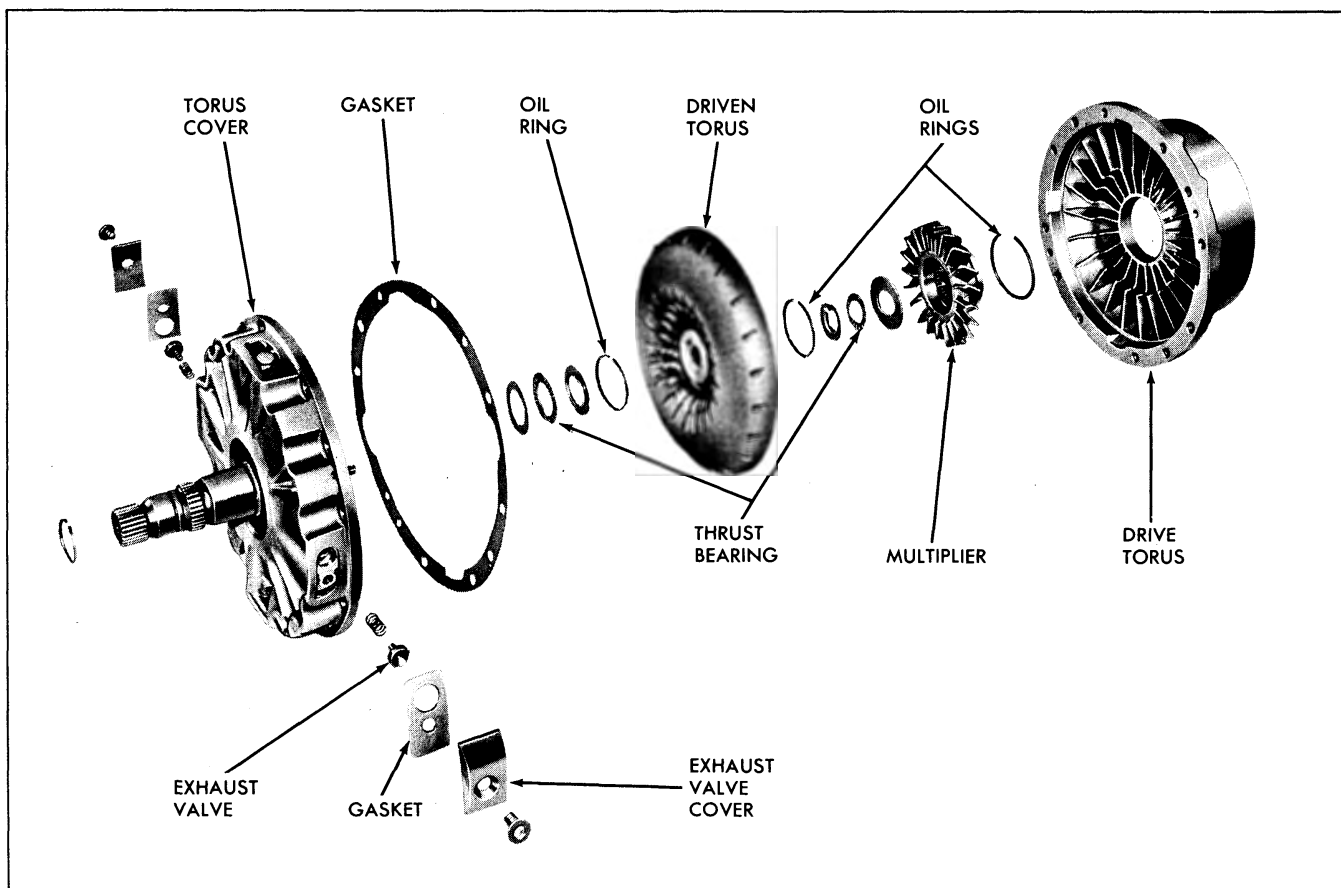

Fig. 7C-126 Torus and Multiplier Assembly—Exploded
6. If rear seal was removed, install new rear seal, using tool J-5154 (Fig. 7C-125).